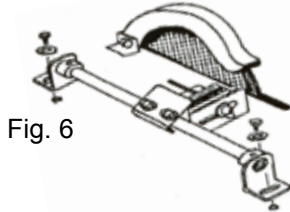

Fig. 6
- Attach the vise parallel to the trim table using the two self-tapping screws (Fig. 6).